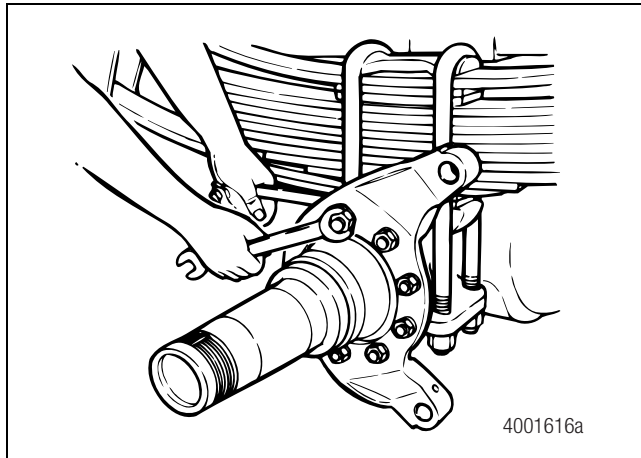

Figure 9.3
2. Remove the nuts, bolts and washers that hold the torque plate to the axle and remove the torque plate. Figure 9.3.